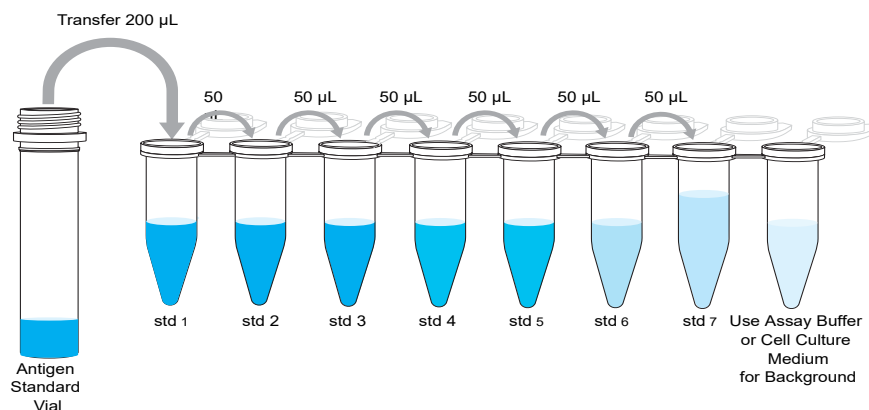

Figure 1 4-fold serial dilution
2. Add 200 μ L of the reconstituted Standard Mix into Std1 tube (see Figure 1).